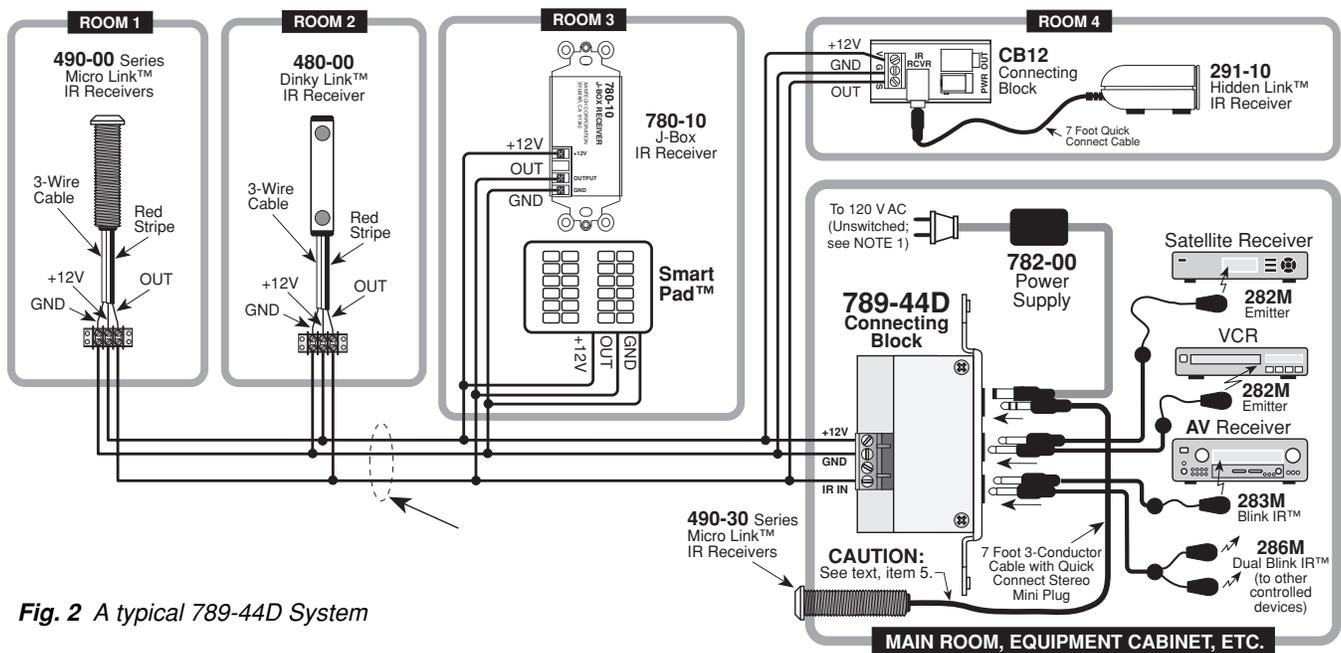

Fig. 2 A typical 789-44D System
Fig. 2, next page, illustrates a typical installation using the 789-44D in an IR repeater system. A variety of Xantech IR Receivers and a keypad are shown. When configuring a system, please keep the following items in mind:
4. For clarity, connections in **Fig. 2** are shown going to a 3-conductor bus in a "daisy chain" fashion. In an actual installation, however, it is recommended that 4-conductor "home-runs" be pulled from each room to the 789-44D Connecting Block in the main room. The home-runs maintain higher power supply voltage to each IR receiver and keypad, and the extra 4th wire can be used for "STATUS" if desired (refer to **Fig. 3**).